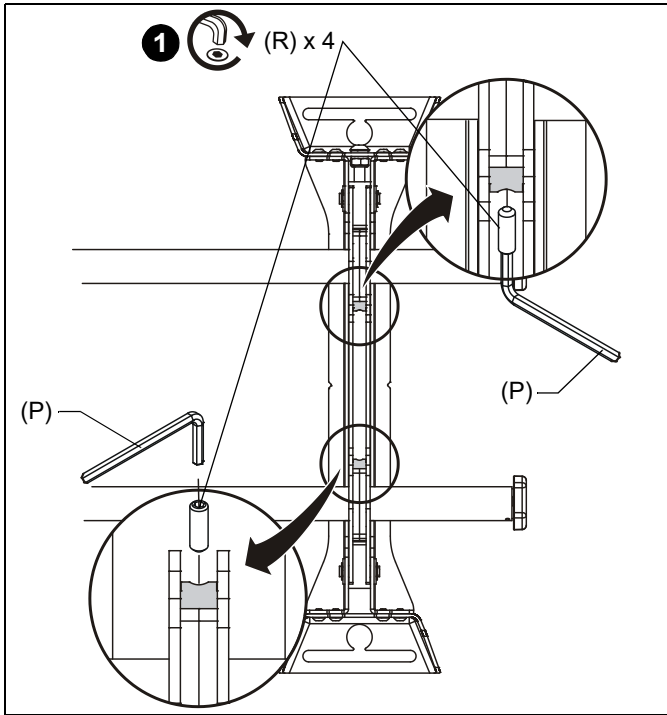

Figure 10
1. Lock rails into place using two 1/4-20 x 3/4" set screws (R) on mount upright (X) and the 1/8" hex key (P). (See Figure 10)